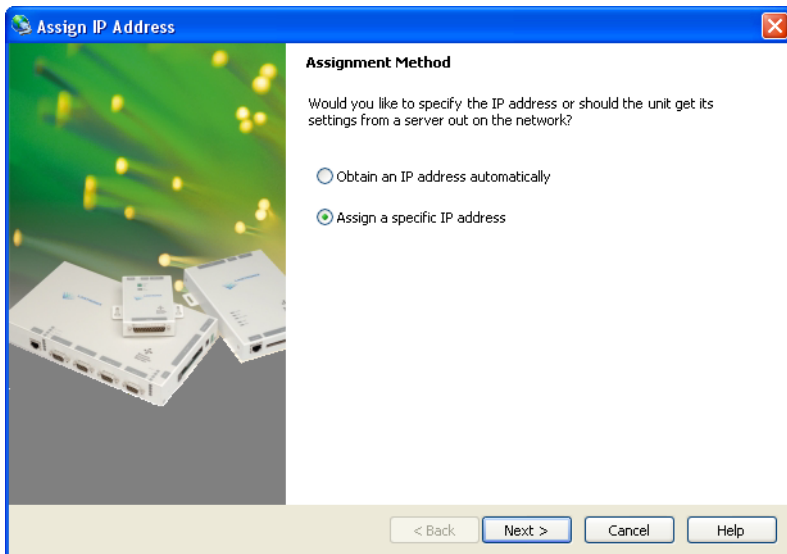

Figure 21: Assignment Method Window
- Click on  to assign an IP address to the LAN-520. The Assignment Method Window appears (see Figure 21 on page 16).